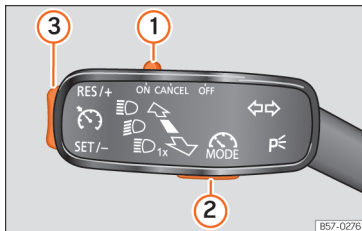
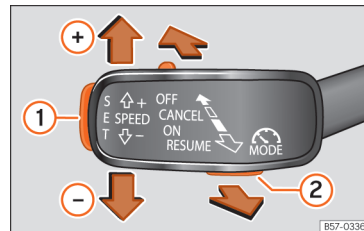

Fig. 225 On the turn signal lever: buttons to operate the speed limiter.
Fig. 226 On the left of the steering column: buttons to operate the speed limiter.
To change between the driving assistance systems, press button  » **Fig. 225 ②** or » **Fig. 226 ②**, then select with the right thumbwheel on the multifunction steering wheel in the instrument cluster menu and press the thumbwheel to confirm your selection.
- Move control » **Fig. 225 ①** to position **ON** and press button **②**.
- While driving, press button » **Fig. 225 ③** in the area **SET/-**.
You can set the speed using button » **Fig. 225 ③**:
- Move control » **Fig. 225 ①** to position **OFF**.
If you want to temporarily deactivate the speed limiter, e.g. for overtaking, move the control » **Fig. 225 ①** to position **CANCEL** or press button **②**.
After overtaking, the speed limiter can be activated with the previously programmed speed by pressing button » **Fig. 225 ③** in the area **RES/+**.
- Move the lever towards the steering wheel to position **ON** and press button » **Fig. 226 ②**.
- While driving, press button **SET** » **Fig. 226 ①**.
- Press the button **SET** »» Fig. 226 ① to reduce speed in small increments of 1 km/h (1 mph).
If you want to temporarily deactivate the speed limiter, e.g. for overtaking, move the lever to the pressure point **CANCEL** or press button »» Fig. 226 ②.